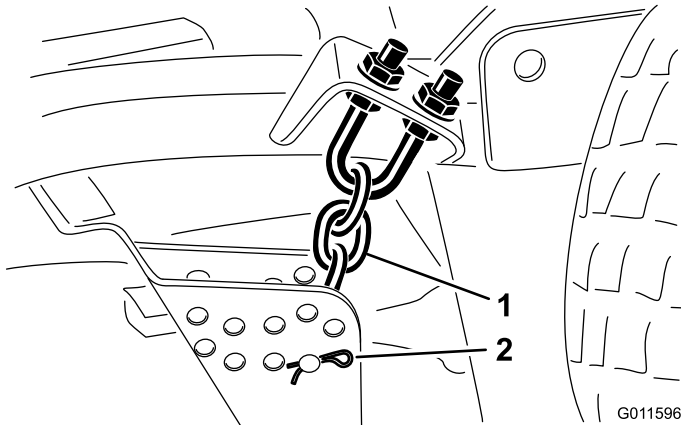

Figure 19
- Remove the hairpin cotter and clevis pin securing the height-of-cut chains to the rear of the cutting unit (Figure 19).